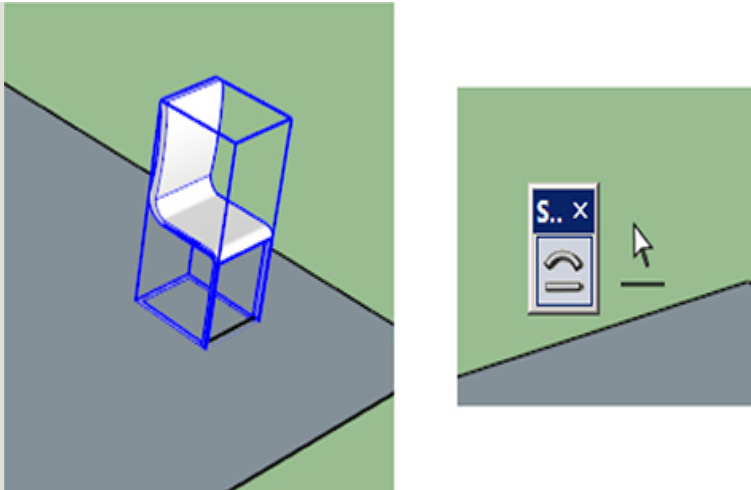

Figure 4-20 Highlight the chair and then click on the CTL Shape Bender tool.
4. Highlight the chair and then click on the CTL Shape Bender tool. The cursor will turn into an arrow and line (Figure 4-20).